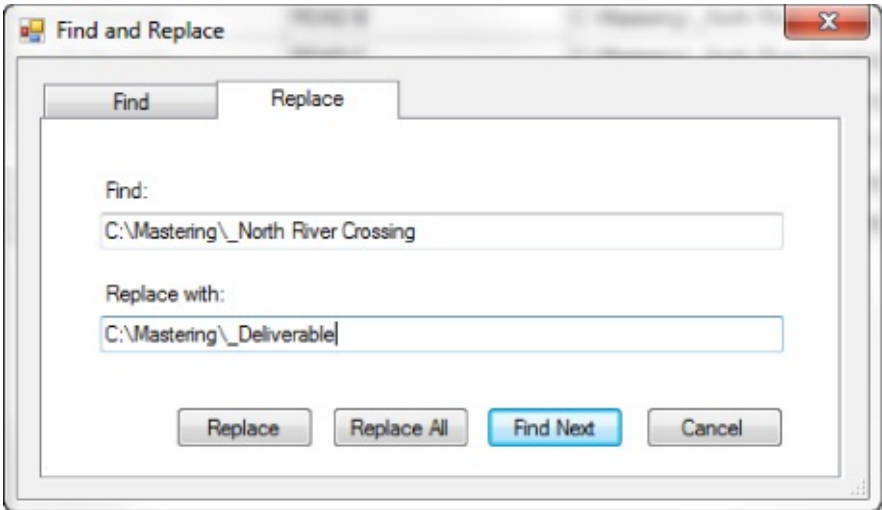

Figure 16.23 Updating the paths to the new project
10. In the Replace With field, replace the text _Another Project with **_Deliverable**, as shown in Figure 16.23.